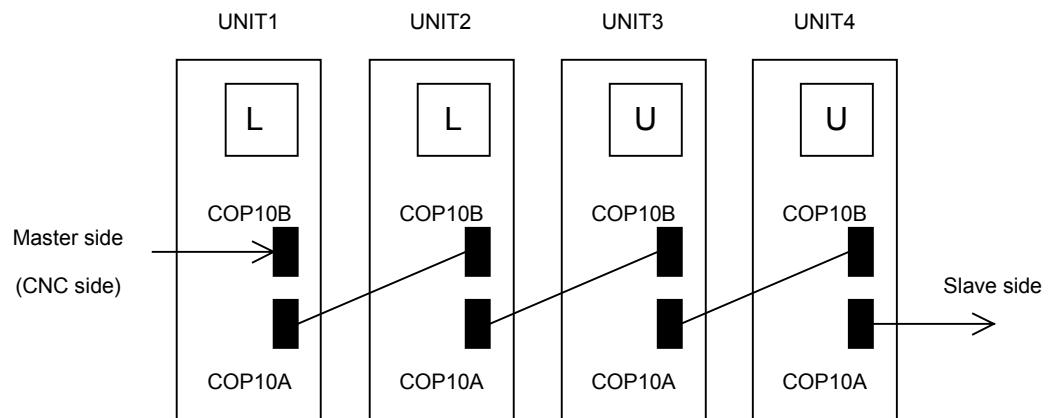

Fig. 3.2.13
- (2) Cause and troubleshooting
- (a) Replace the SVM optical cable (COP10A) that is farthest to the CNC on which "L" is displayed (in Fig. 3.2.13, the cable between UNIT2 and UNIT3).
- (b) Replace the SVM that is farthest to the CNC on which "L" is displayed (in Fig. 3.2.13, UNIT2).
- (c) Replace the COP10A-side SVM that is farthest to the CNC on which "L" is displayed (in Fig. 3.2.13, UNIT3).